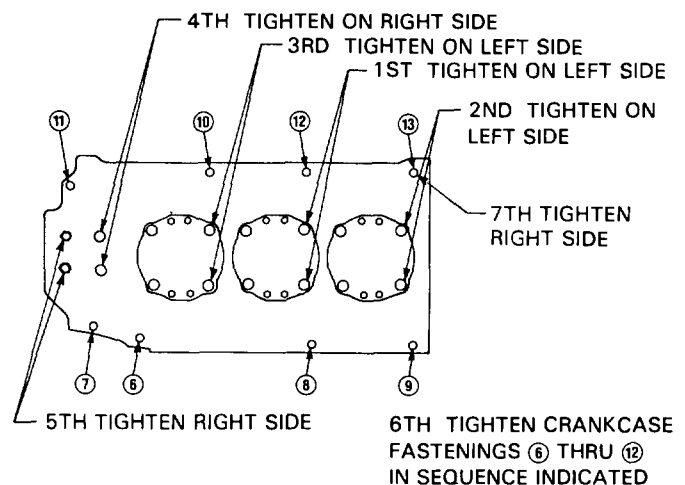

Figure 9. Left Side of Crankcase
i. Six Cylinder Direct Drive Engines, O-435A/O-540 type, Standard Cylinder Flange (See Figure 9).